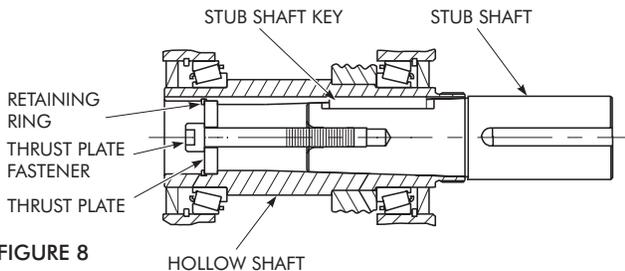

FIGURE 8
- Install thrust plate and retaining ring into hollow shaft as illustrated in Figure 8.
- Install thrust plate and retaining ring into hollow shaft as illustrated in Figure 8, Page 6.